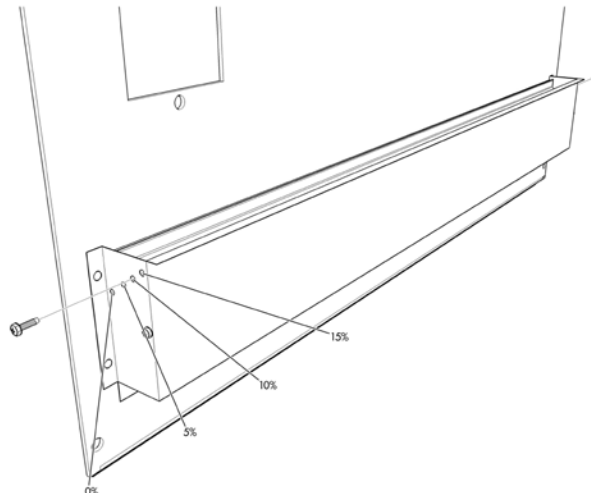

Figure 4. Fresh Air Hood Damper, Models 1024A-1060A & 2036A-2060A
3. Refer to Figure 4. Attach the bottom support bracket to the wall using appropriate 3/8" diameter hardware.